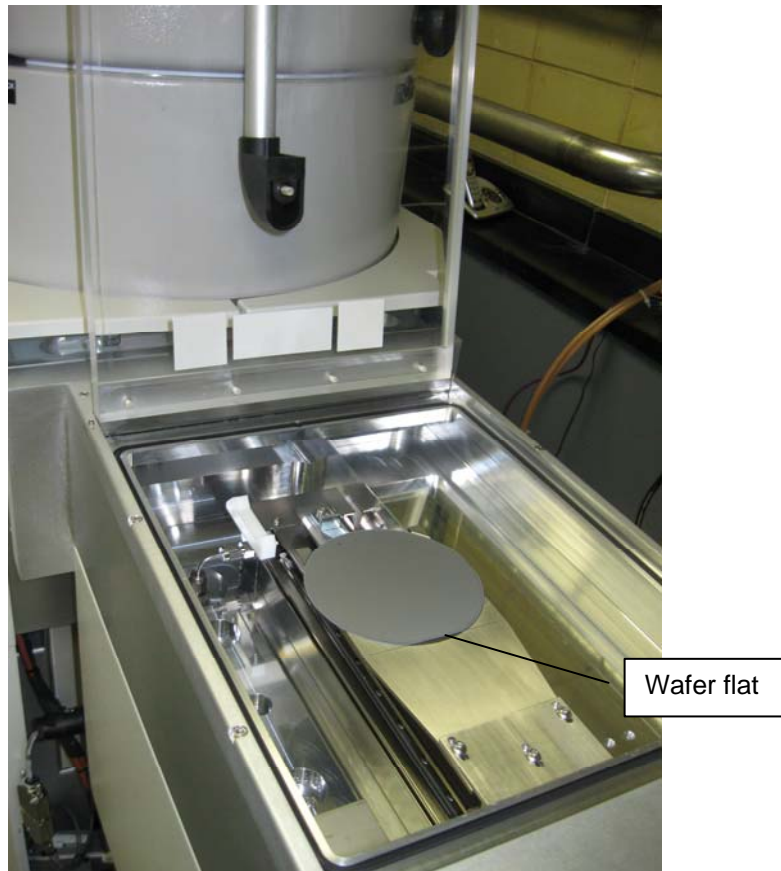

Figure 4: Wafer in the loadlock with its flat aligned to the loading arm.
- c) Open the loadlock door and place your wafer on the loading arm with wafer flat facing to the front of the machine and aligned as shown in Figure 4. Always make sure the wafer is clean and free of particles and use tweezers to handle it.